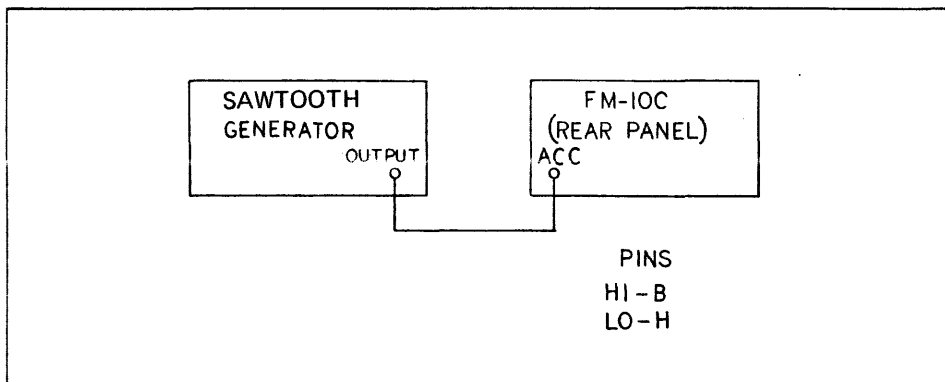

FIGURE 2-4 ELECTRONICALLY SWEPT FREQUENCY GENERATION (MODEL RFM-10)
- b. Connect sawtooth generator to FM-10C as shown in Figure 2-4.